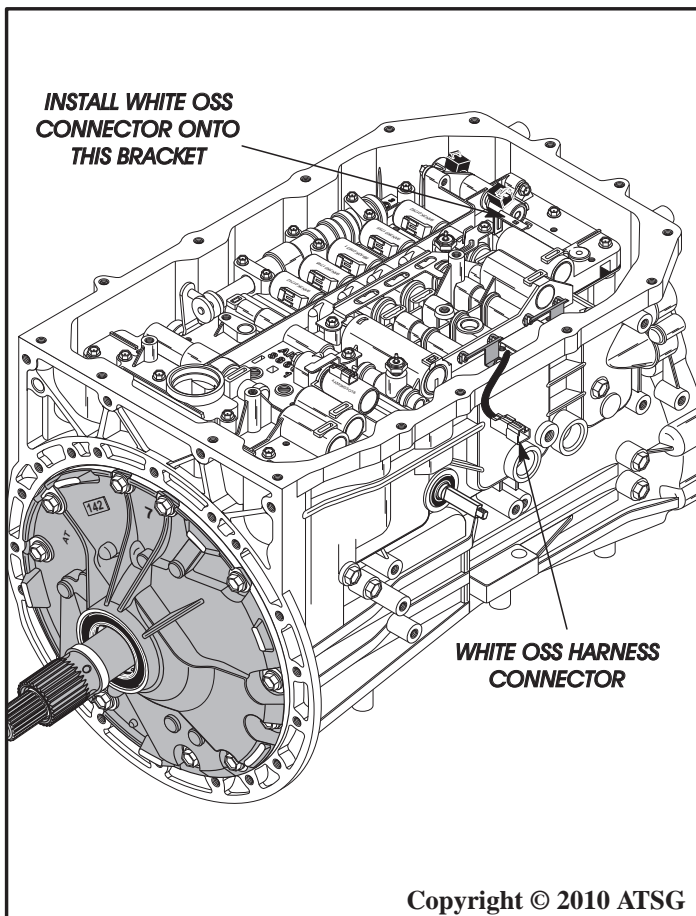

Figure 232
57. Install White OSS harness connector onto the solenoid retaining bracket (See Figure 232).